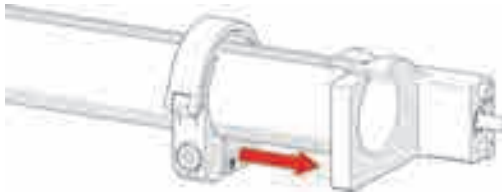

Figure 4-135 Slide clamp onto mount
4. Slide the clamp over the tube and cable management mount pinching the tube in between (see Figure 4-135 on page 193).